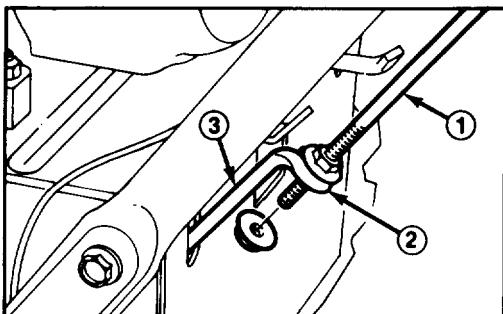

Figure 3
3. Thread a flange nut (flange side up) onto bottom of traction control rod to loop in lower traction rod (Fig. 3).
6. Adjust flange nuts on traction rod (Fig. 3) until dimension is attained.